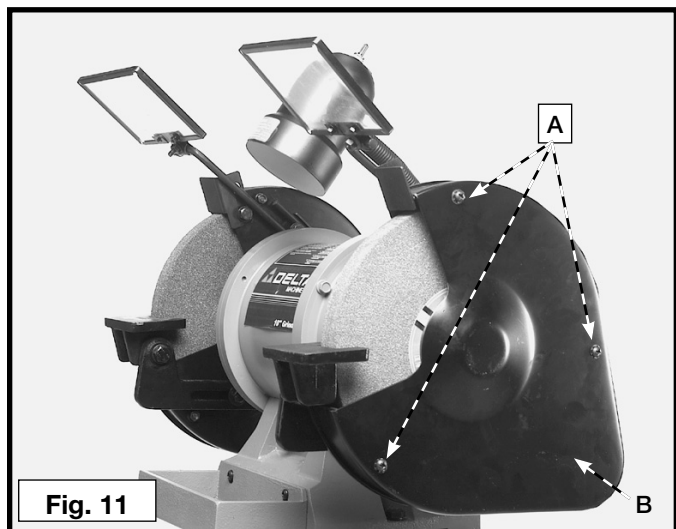

Fig. 11
1. Remove the screws (A) Fig. 11 and the side covers (B) from the grinding wheel.